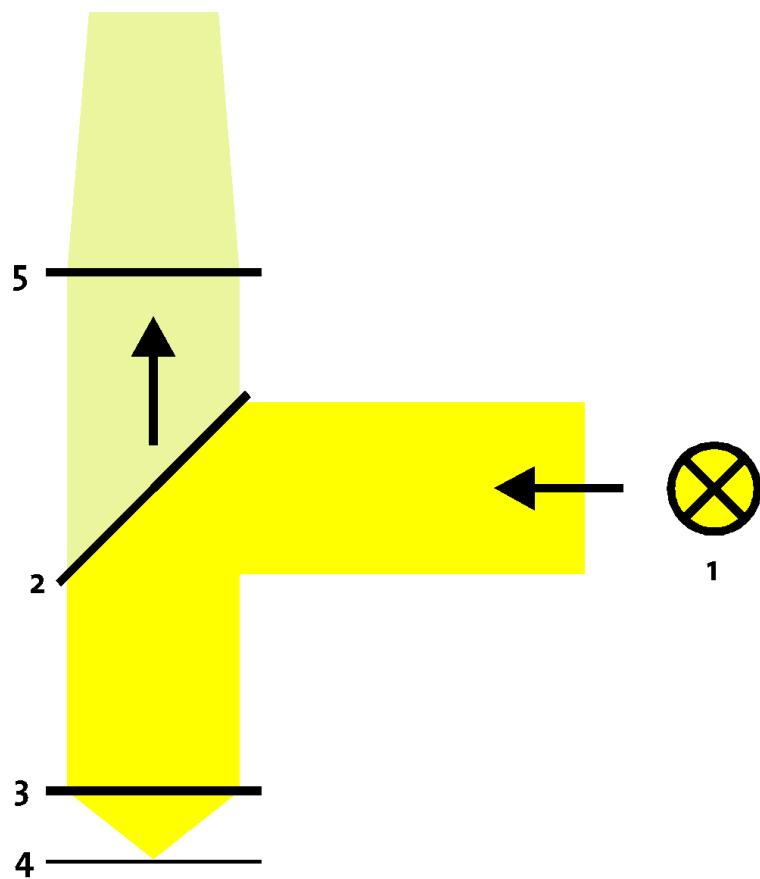

fig. 1.1: Beam path for white light illumination
The bundled illumination light coming from the white-light source ((1) in Fig. 1.1) is reflected from the colour-neutral beam splitter (2) in the black dovetail slider, and then focused by the objective (3) onto the sample surface (4). The objective gathers the reflected or indirect beam portions and -together with the tube lens (5)- produces the intermediary image which can then be viewed or documented objectively.